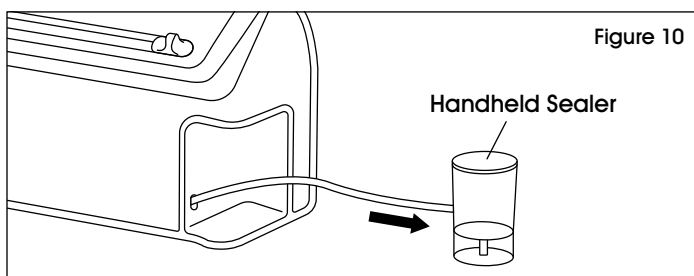

Figure 10
- Pull out the built-in retractable handheld sealer to desired length. (See Figure 10)